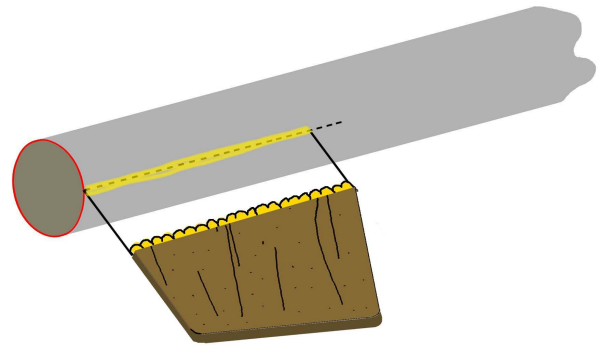

Figure 8
- **Step 23** As shown in Fig. 8, above, apply a layer of full-strength glue to the root edge of a fin, and to one of the fin alignment lines on the booster body, starting at the rear edge of the tube forward to the mark located in step 13. The glue will be applied directly on top of the earlier layer of glue, forming what is known as a “Double Glue Joint”. Press the root edge of the fin against the body tube directly over the alignment line, making sure the fin is not angled to one side of the line or the other. Hold in place for about 10 seconds before releasing. Using a moist soft-bristle brush, smooth down the excess glue that squeezes out from the joint. Slide the fin alignment guide down from the top of the tube until the fin is trapped in the slot. This guide will hold the fin at the correct angle while the glue dries. When dry, remove the guide and apply the remaining fins in the same manner until all three are attached.